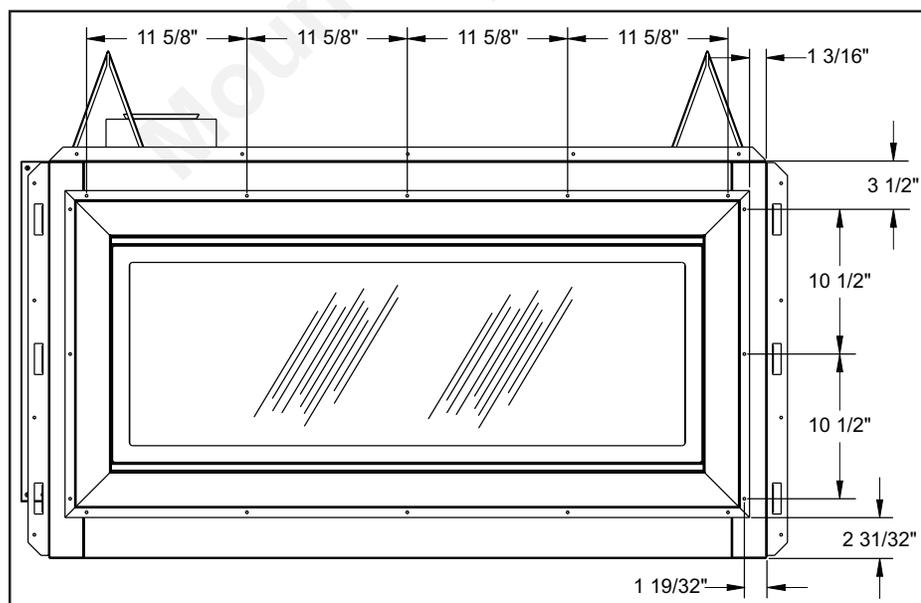

Figure 41 - Installing Exterior Door for See-Thru In/Out Application
1. Center and level exterior door on rear face of the see-thru fireplace. Exact dimensions for the location of the door are shown in Figure 41.